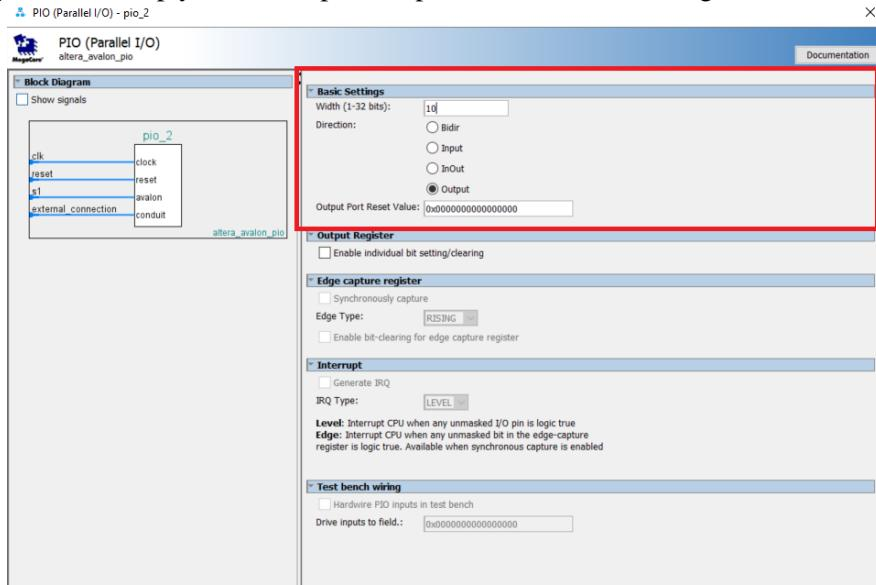

Figure 15: Parallel IO Configuration Panel for LED Outputs
17. When you have setup your led output component interface as in Figure 15, click **Finish**.